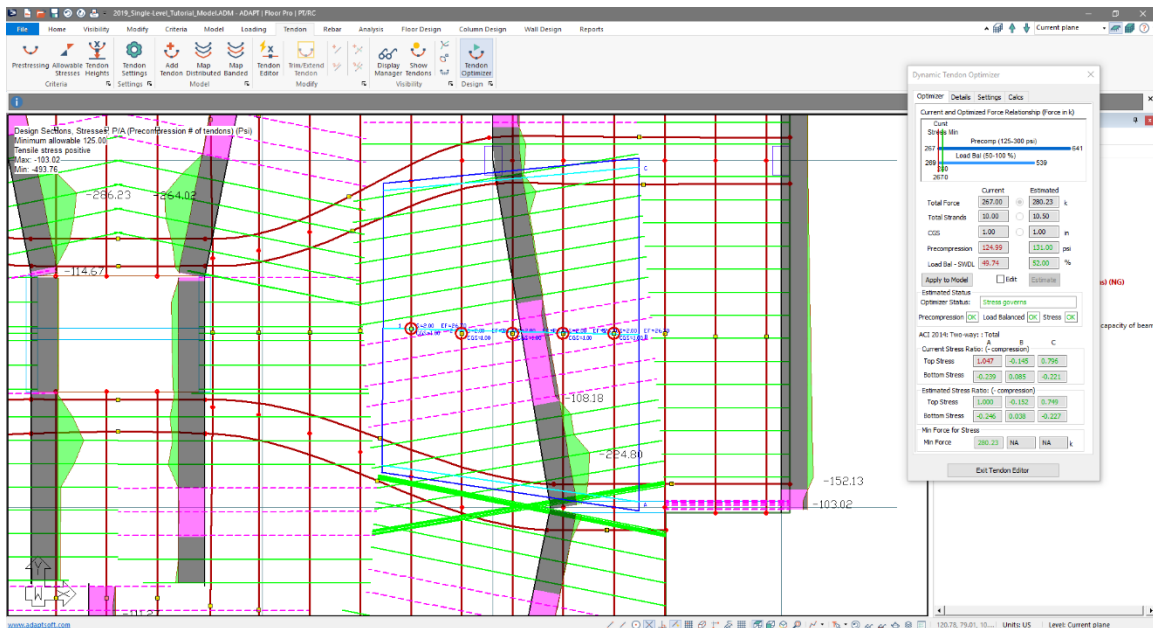

Figure 8-68
- Select the midpoints of the tendons that cross the pink design sections in this area. The program will create the *Dynamic Tendon Optimizer* tributary and sections as shown in **FIGURE 8-68**.